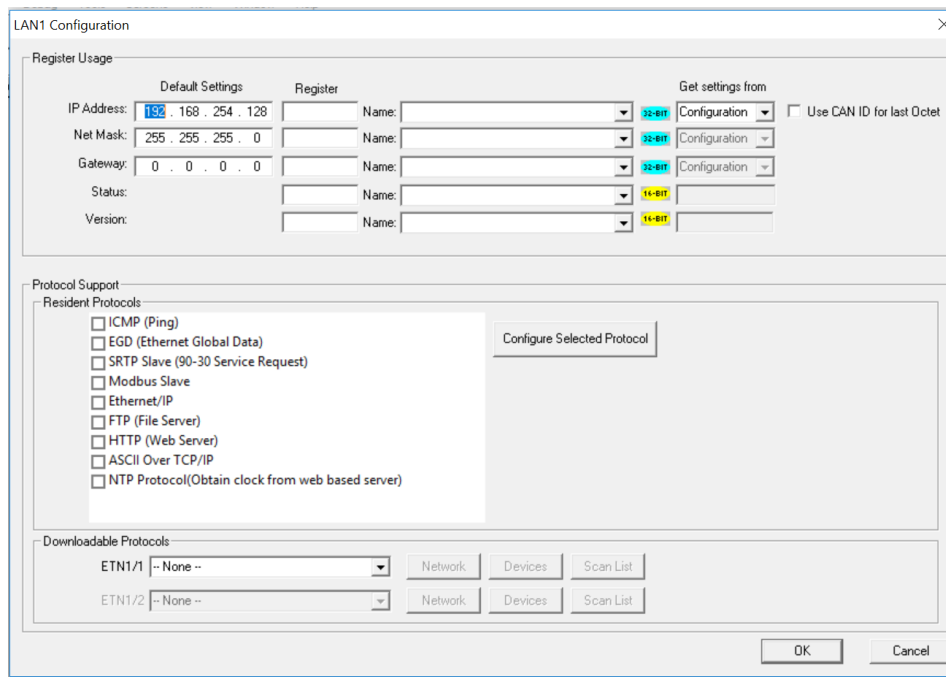

Figure 12.2 - LAN1 (Ethernet) Module Configuration
3. Click the **Config** button to the right of LAN1, revealing the Ethernet Module Configuration dialog as shown in Figure 12.2